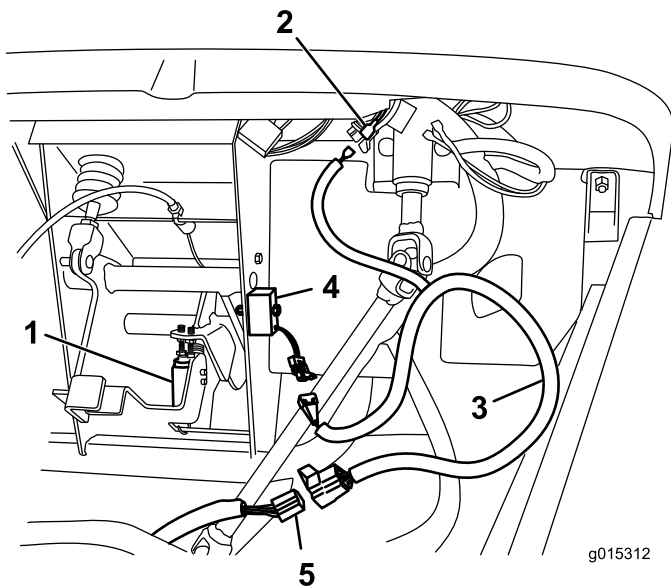

Figure 1
1. Secure the key start module to the pedal assembly frame using a bolt (1/4 x 1-3/8 inch) and flange nut (1/4 inch) as shown in Figure 1.
2. Disconnect the existing wiring harness connector from the pedal switch (Figure 1).
3. Locate the front key start harness (Figure 1) in the loose parts.
4. Connect the front key start harness to the key start module with the matching connector and connect the opposite end to the existing wiring harness connector (Figure 1).
5. Locate the lead from the existing wiring labeled Key Start. Connect the key start lead on the front key start harness to the labeled lead on the vehicle (Figure 1).